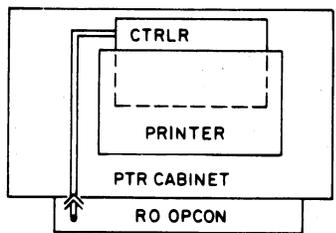

Fig. 19—General Interconnection Diagrams
3.11 Block diagrams of interconnecting cables for the three basic arrangements of the operator consoles (KD and ROP) are shown in Fig. 19.